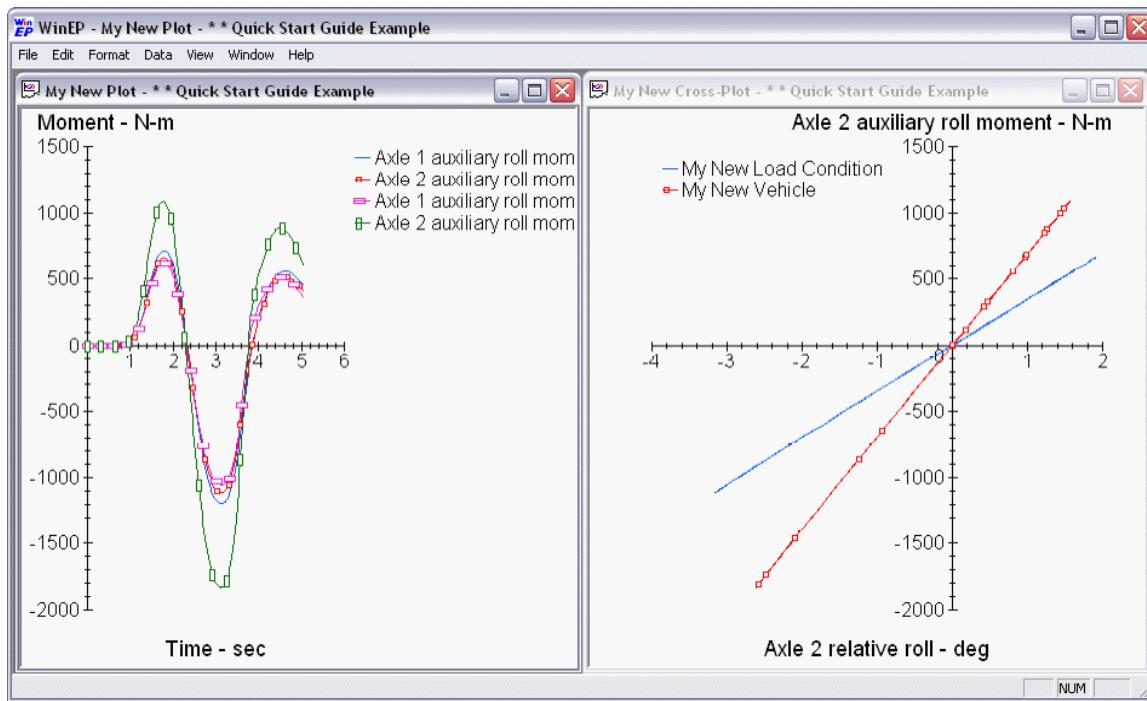

Figure 67. Two new plots generated to show auxiliary roll moment.
13. Click the **Plot** button and view the two plots you have defined (Figure 67). Exit the plotter when you are through viewing the plots.